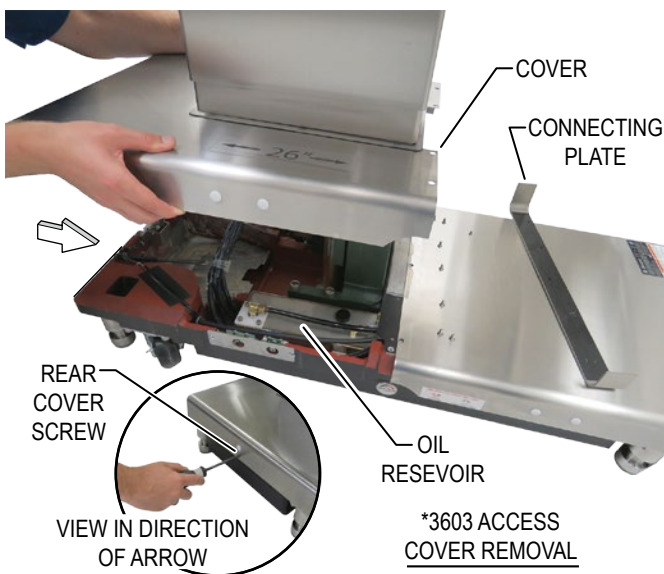

Figure 5. Remove 3603 Access Cover
10. Carefully remove the base connecting plate and rear cover screw. Raise the cover and locate the oil reservoir (Figure 5).